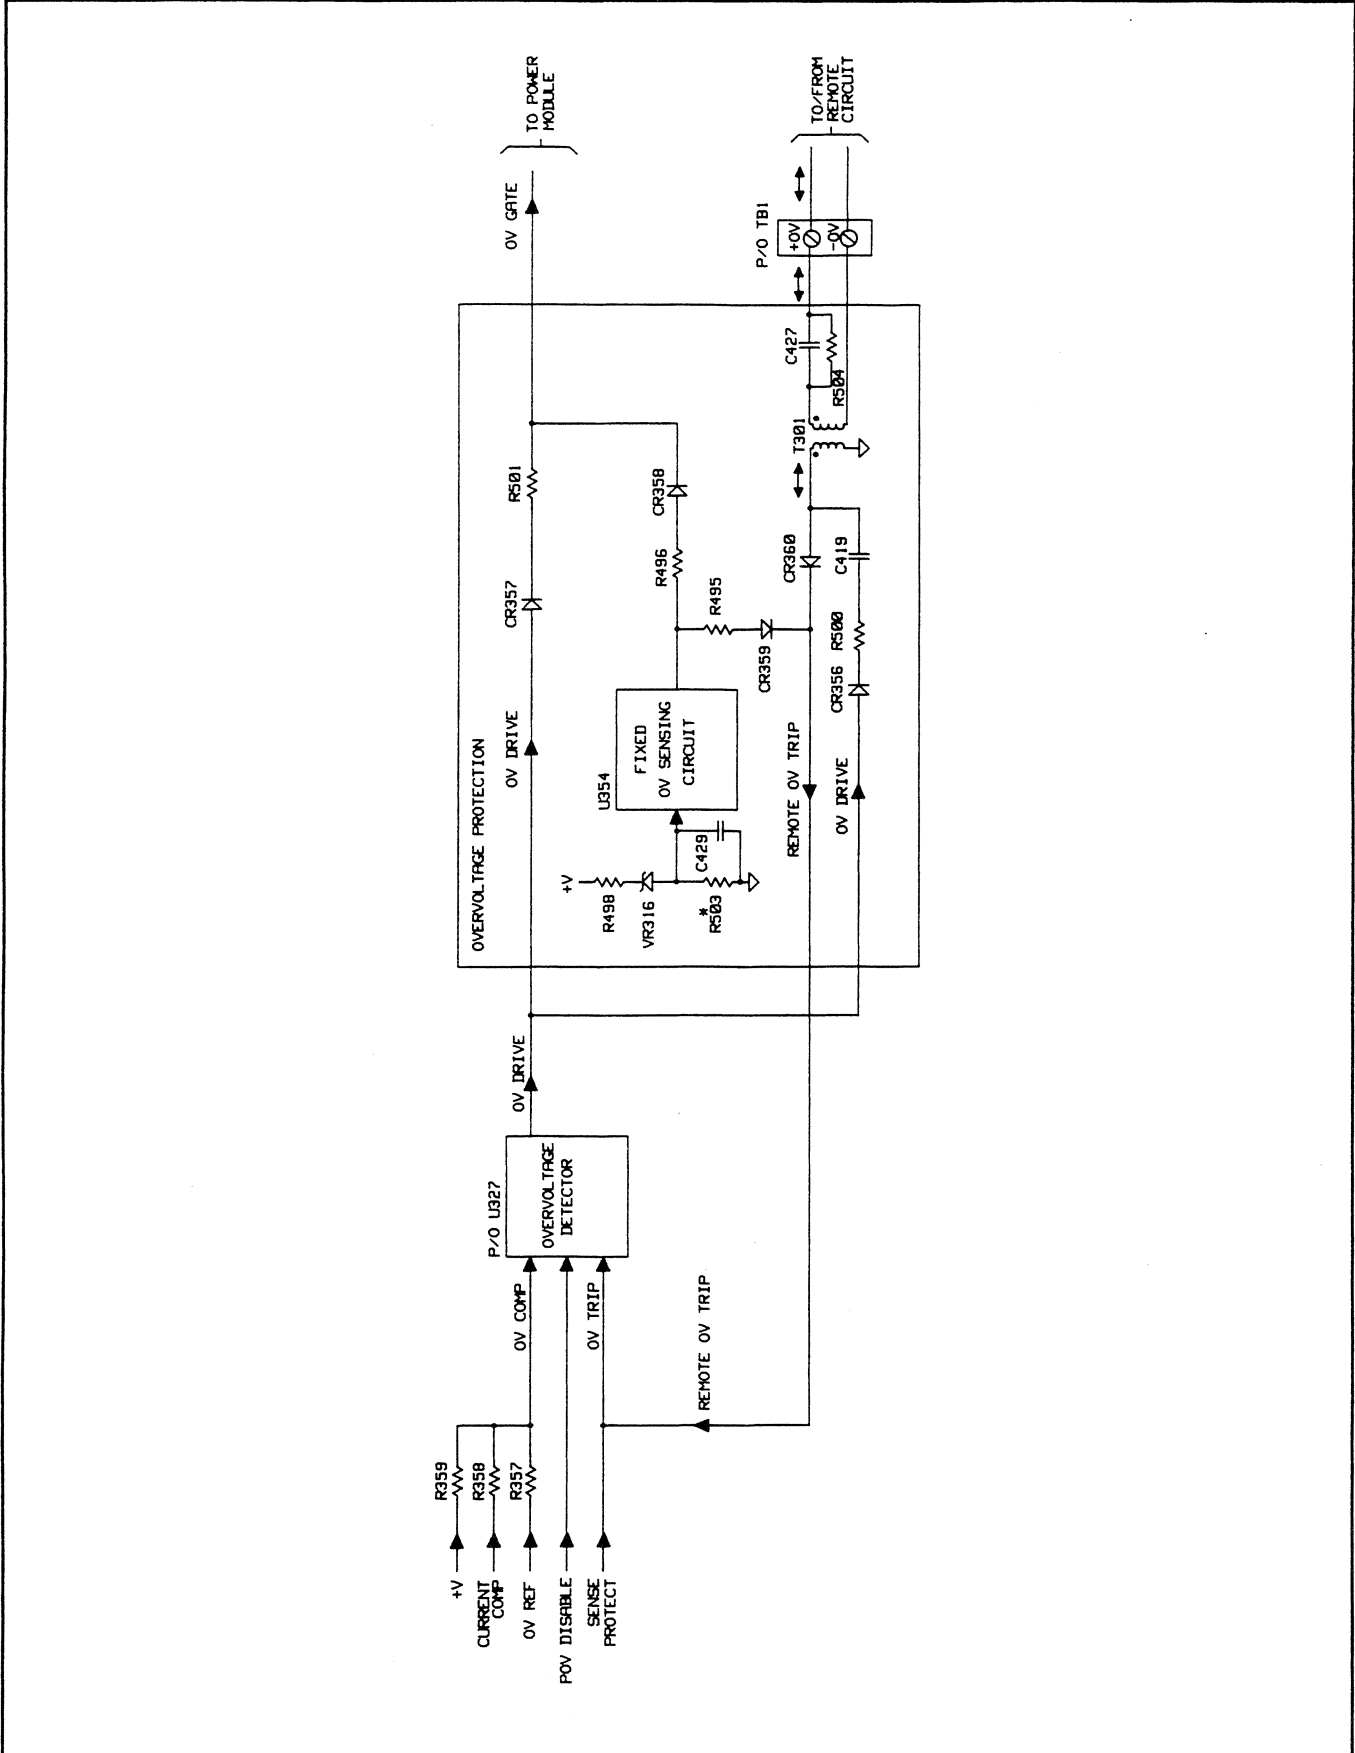

Figure 2-9. Overvoltage Protection Circuits, Simplified Schematic
**2-50 Overvoltage Protection Circuits.** These circuits generate the OV GATE signal which fires the SCR in the power module and shuts down the output. Figure 2-9 is a simplified schematic of the overvoltage protection circuits which are comprised mainly of: a fixed overvoltage sensing circuit (U354) and divider (R357/R359) that compares the OV DAC signal to the output voltage, signal processor U327, diodes CR356-CR360, and pulse transformer (T301) that couples CR356-CR360, and pulse transformer (T301) that couples the remote trip signals that are sent/received via the +OV and -OV terminals.
As shown in Figure 2-9, the main input to the overvoltage protection circuits is the OV DRIVE signal which is received from the overvoltage detector (P/O U327, see paragraph 2-32). The OV DRIVE signal goes high to activate the OV GATE signal which is sent via diode CR357 to fire the SCR in the power module. The conditions which activate OV DRIVE are described in the following paragraphs.
Note that the OV DRIVE signal is also sent to the  $\pm$  OV terminals via diode CR356 and transformer T301 to either notify a remote circuit that the overvoltage circuit was tripped or alternatively to fire other output boards (up to eight) by paralleling the external OV lines. The OV TRIP signal can activate the OV DRIVE and shut down the supply regardless of the state of the POV DISABLE signal. As shown in Figure 2-9, OV TRIP is the output of a wired OR gate and can be activated by either the SENSE PROTECT signal (as described in paragraph 2-44) or by the REMOTE OV TRIP signal. The REMOTE OV TRIP signal can be generated by the fixed OV sensing circuit or by a remote signal connected to the output's + OV and - OV terminals.
As shown in Figure 2-9, the trip signal enters at the  $\pm$ OV terminals and is coupled through pulse transformer T301, diode CR360, and the overvoltage detector circuit to generate OV GATE and shut down the supply.